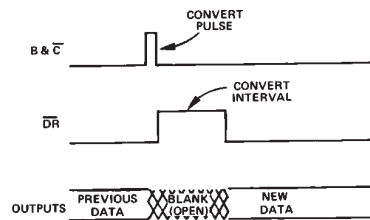

Figure 11. Convert Pulse Mode
**Convert Pulse Mode**—In this mode, data is present at the output of the converter at all times except when conversion is taking place. Figure 11 illustrates the timing of this mode. The  $\overline{\text{BLANK}}$  and  $\overline{\text{CONVERT}}$  line is normally low and conversions are triggered by a positive pulse. A typical application for this timing mode is shown in Figure 14, in which  $\mu\text{P}$  bus interfacing is easily accomplished with three-state buffers.